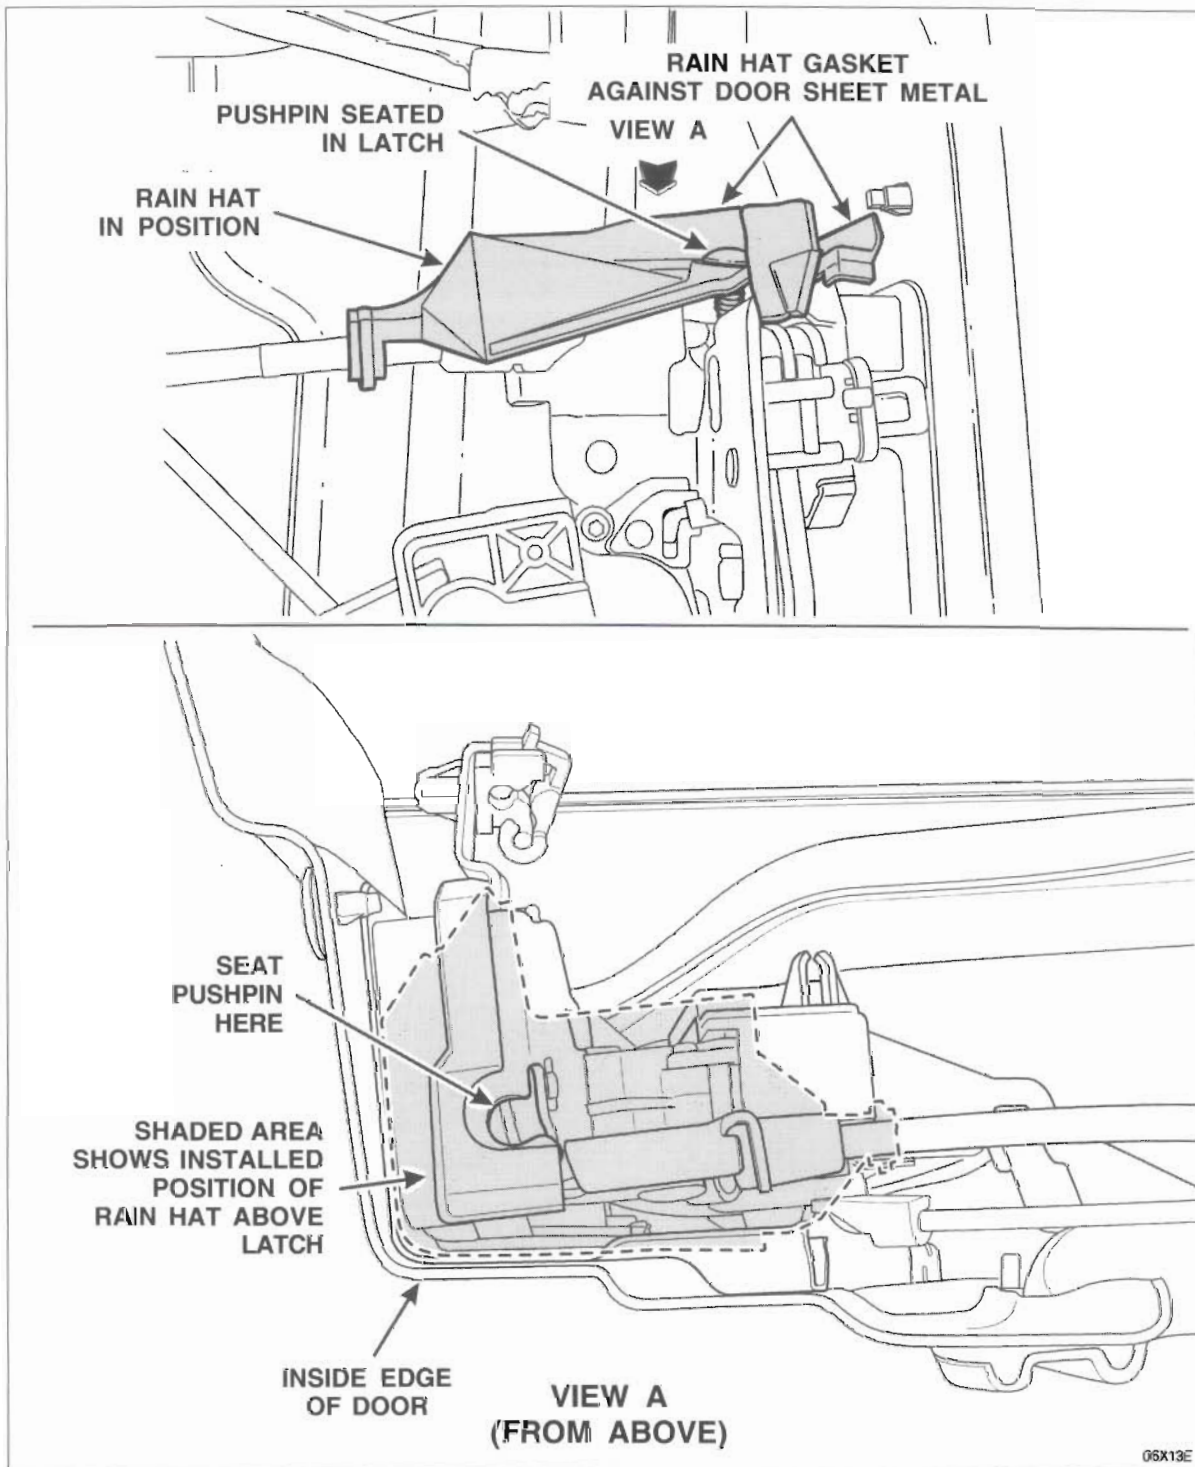

FIGURE 5
- c) Seat the pushpin into the latch. See Figure 5.